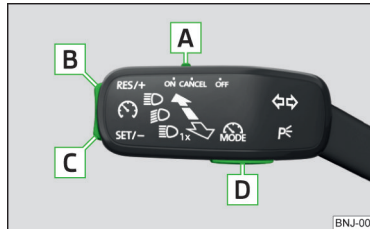

Fig. 228
Overview of the CCS controls » Fig. 228
- ▶ By pressing button **D** » Fig. 228.
- By pressing the button **D** » Fig. 228 during the control procedure this is cancelled and the Speed Limiter is activated.